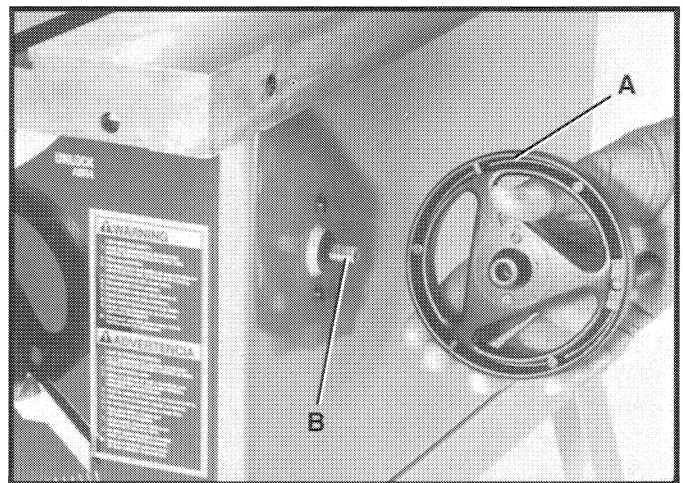

Fig. 10
1. Assemble blade tilting handwheel (A) Fig. 10, to shaft (B), making certain the flat on the shaft is engaged with the flat in the handwheel.